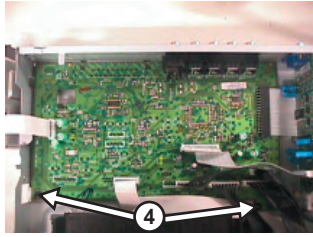

Figure 4-6
- 2) Loosen 2 screws (See Figure 4-6 & Figure 4-7) to remove the AV Board.